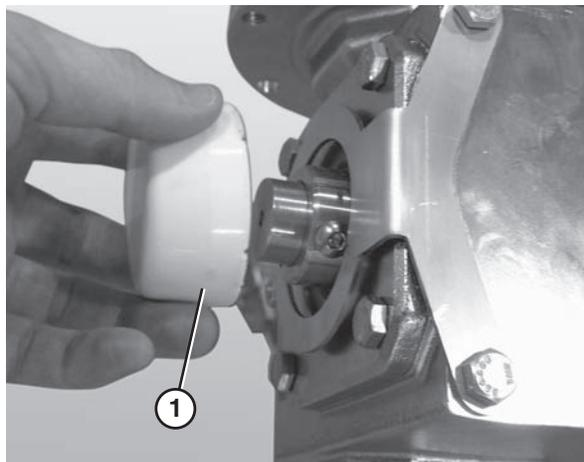

Figure 9
6. Attach the gearmotor cover (Figure 9, item 1).